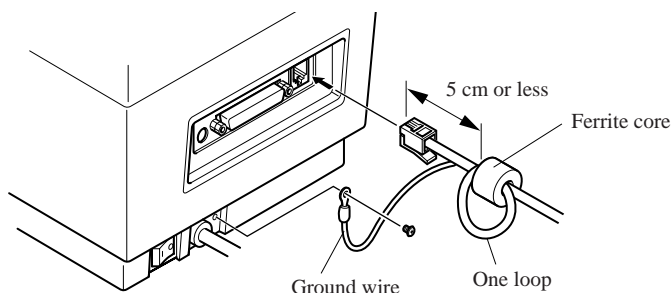

Fig. 3-5
- Clamp the ferrite core onto the cable of the peripheral unit using the same procedure as you do for the parallel interface cable ferrite core. With the peripheral unit cable ferrite core, however, you have to loop the cable as shown in Fig. 3-5.